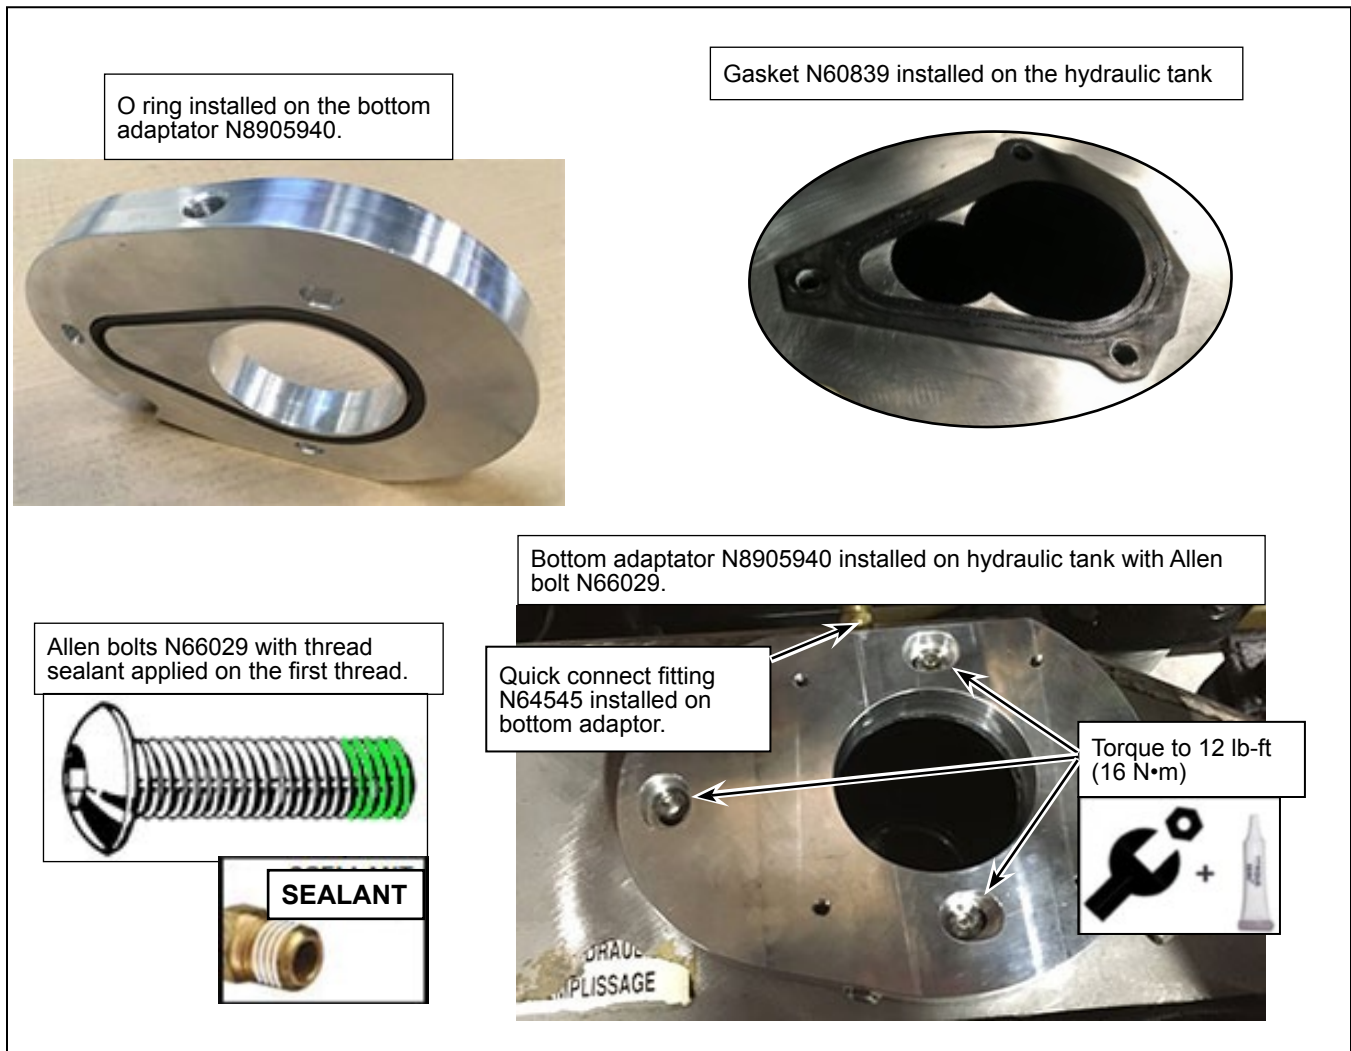

Figure 4 - Bottom Adaptor and Remote Breather Quick Connect Fitting on Hydraulic Tank
- 1.18. Install the supplied O-ring on the bottom adapter plate N8905940 (include in the N8905966 kit). See Figure 4.
- 1.19. Install the gasket N60839 on the hydraulic tank. See Figure 4.
- 1.20. Apply a thin coat of thread sealant on the first thread of the Allen bolts N66029. See Figure 4.
- 1.21. Install the bottom adapter plate N8905940 on the hydraulic tank using the the Allen bolts N66029. See Figure 4.
- 1.22. Install the quick connect fitting N64545 on the bottom adaptor plate. See Figure 4.